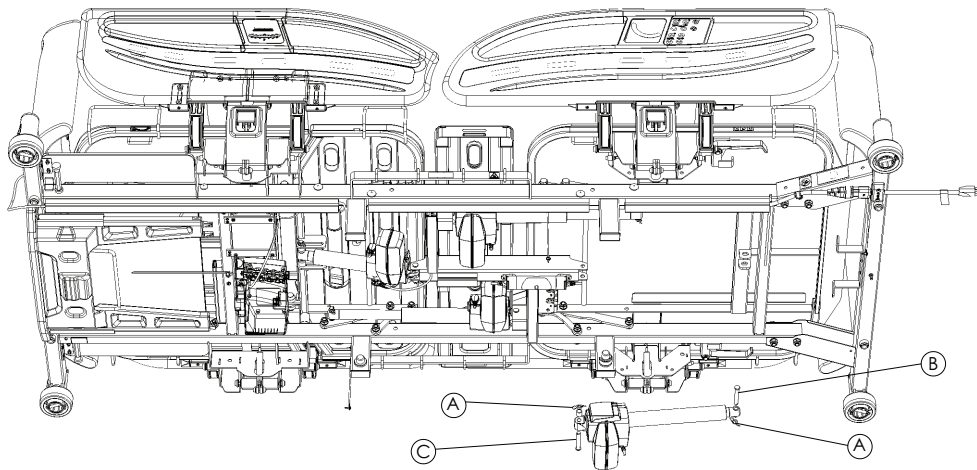

Figure 2 – Fowler (backrest) actuator
9. Using needle nose pliers, remove and discard the rue ring cotter pins (A) (Figure 2) from each clevis pin.
10. Using one hand, support the Fowler (backrest) actuator and remove and save the head end clevis pin (B) (Figure 2) then allow the Fowler (backrest) actuator to pivot down.
11. Using one hand, support the Fowler (backrest) actuator and remove and save the foot end clevis pin (C) (Figure 2) and spacer.